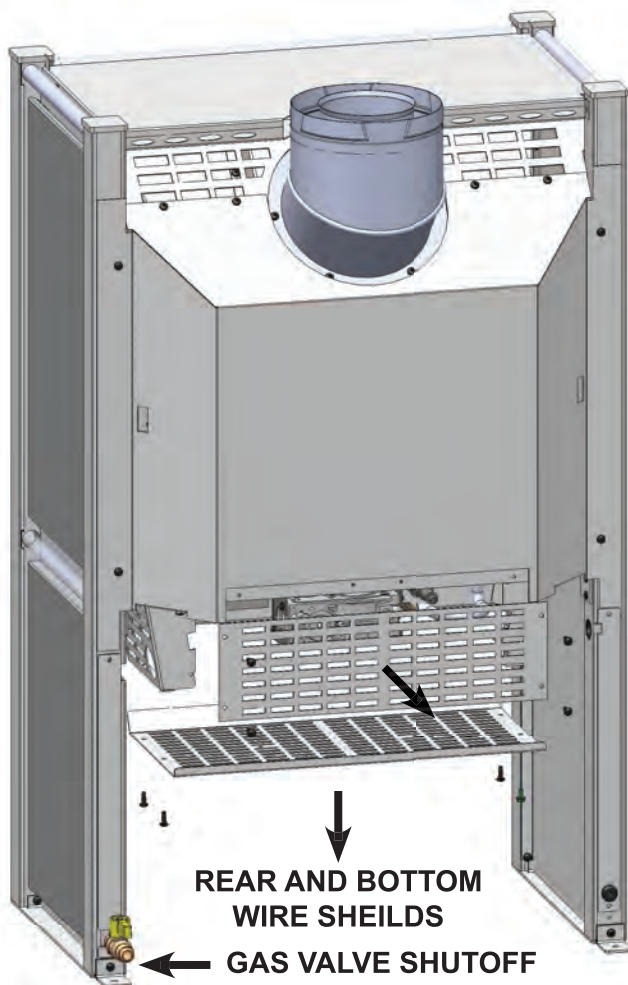

Fig.53
3. Remove the bottom and rear wire shields (7 screws, 1 ground). (Fig.53)